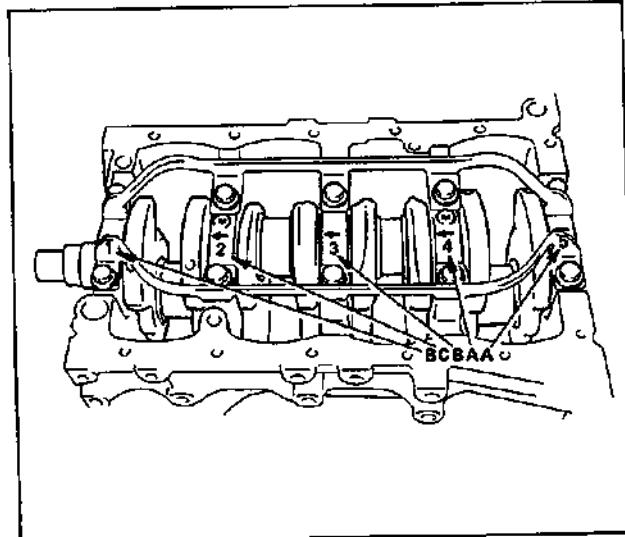

Fig. 6A-150 Stamped Alphabets on Cylinder Block
For example, in Fig. 6A-150, the first (leftmost) alphabet "B" indicates that cap bore dia. of bearing cap "1" is within 56.006 – 56.012 mm, and the fifth (rightmost) alphabet "A" indicates that cap bore dia. of cap "5" is within 56.000 – 56.006 mm.
3. There are five kinds of standard bearings differing in thickness. To distinguish them, they are painted in following colors at the position as indicated in Fig. 6A-151.